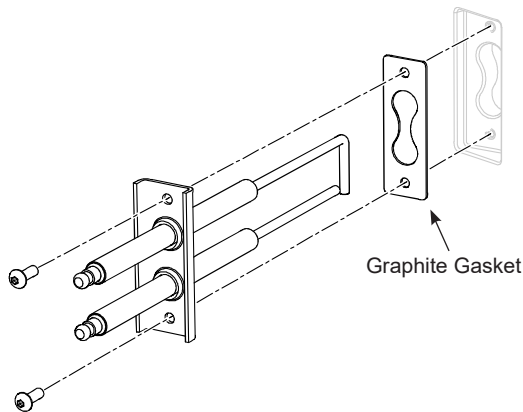

Figure 25: Igniter Electrode Assembly
- Install igniter electrode in the orientation shown in Figure 25; otherwise, the unit will not light.